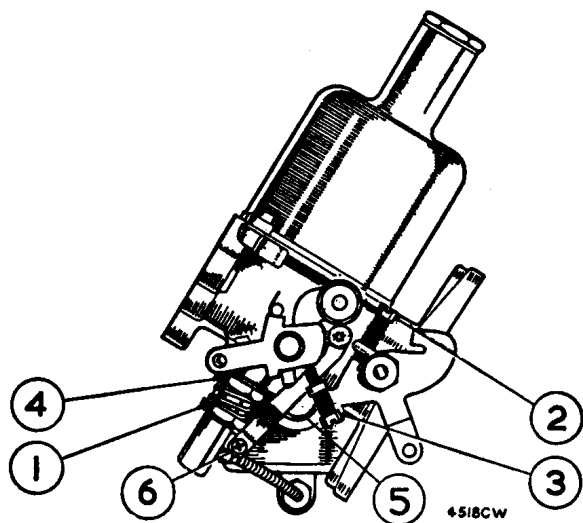

Fig. BBB.5
- (1) Disconnect the link between the jet lever and the jet head by removing the screw (6, Fig. BBB.5).
- (2) Unscrew the union holding the nylon feed tube into the base of the float-chamber, and withdraw the tube and jet together. Unscrew the jet adjusting nut and remove the lock spring. Replace the adjusting nut and screw it right up to its topmost position, then replace the jet and feed tube.